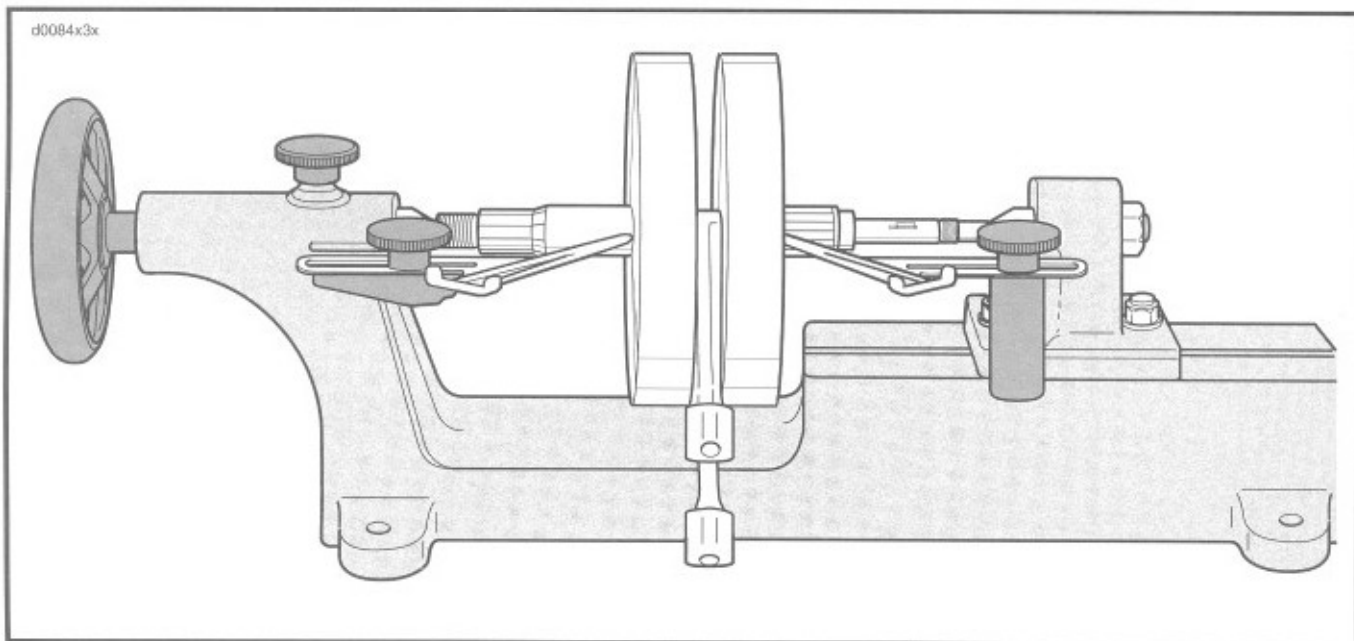

Figure 3-93. Truing Flywheel
9. Tighten crank pin nut to 150-185 ft-lbs (203-251 Nm) torque. See Figure 3-93. Install flywheel assembly in Harley-Davidson FLYWHEEL TRUING DEVICE (Part No. HD-96650-80) as shown. Adjust so centers are snug. Wheels must turn freely; however, shafts must not be loose in centers. If flywheel assembly is either loose or squeezed, indicators will not indicate accurately. Adjust indicators to take reading as near to flywheels as possible, so pointers read at about the middle of the scales.
11. See Figure 3-93. Flywheel may be out of true three ways, A, B and C or a combination of two of the three ways.
16. See Figure 3-93. Readjust centers, revolve wheels and take reading from indicator. Repeat truing operation until indicated shaft runout does not exceed 0.001 in. (0.025 mm) (each graduation on indicator is 0.002 in. (0.05 mm)).